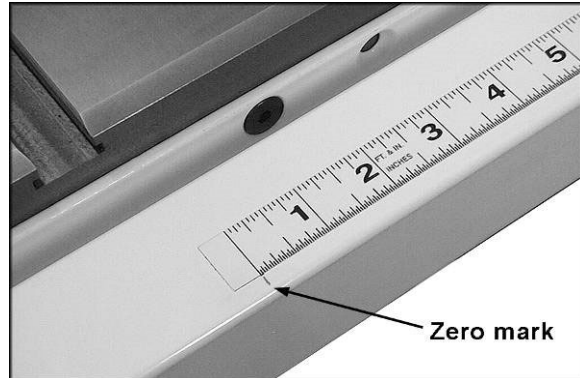

Figure 17
4. Remove the fence, and clean the guide tube surface with alcohol. Peel off some of the scale backing, and align the zero point of the scale with your mark on the guide tube. See Figure 17. Position the scale far enough from the edge so that it can be read easily through the cursor lens. Continue to peel the backing and apply the scale, while keeping the scale as straight as possible along the guide tube.